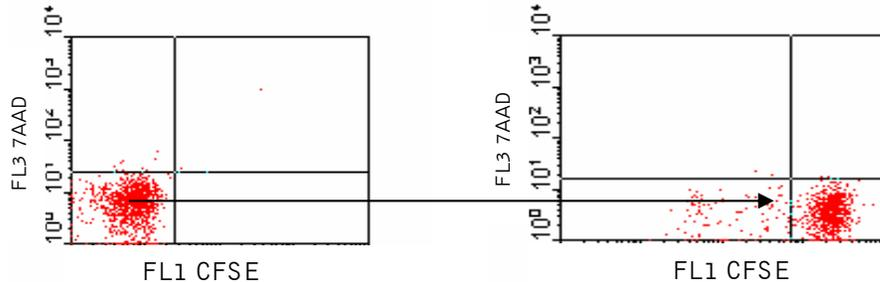

Figure 5a: Control B, unstained.
**Control B:** Run a control of target cells (unstained) to set up the initial flow cytometry compensation for FL1 (CFSE) vs. FL3 (7-AAD), Figure 5a.